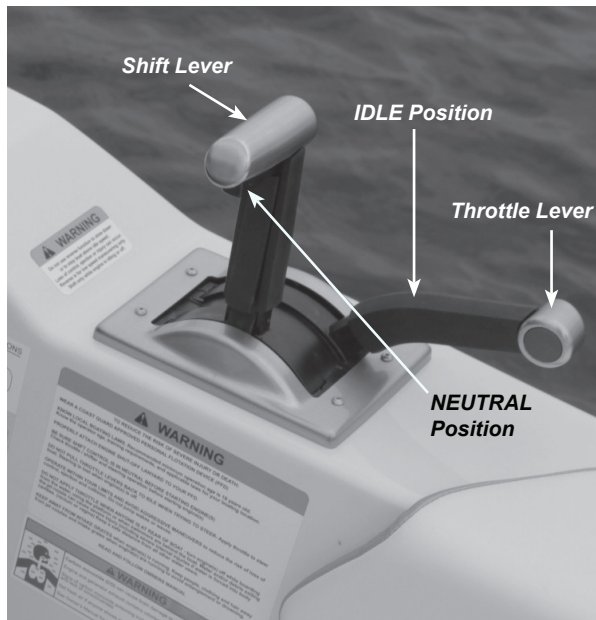

Figure D5: Separate Shift & Throttle Controls Neutral & Idle Positions
1. Move shift lever to the neutral position and Place the throttle lever in the idle position. See Figure D5. Placing the shift lever in neutral detent position and throttle lever in the neutral position will engage neutral start switch and allow engine to start.